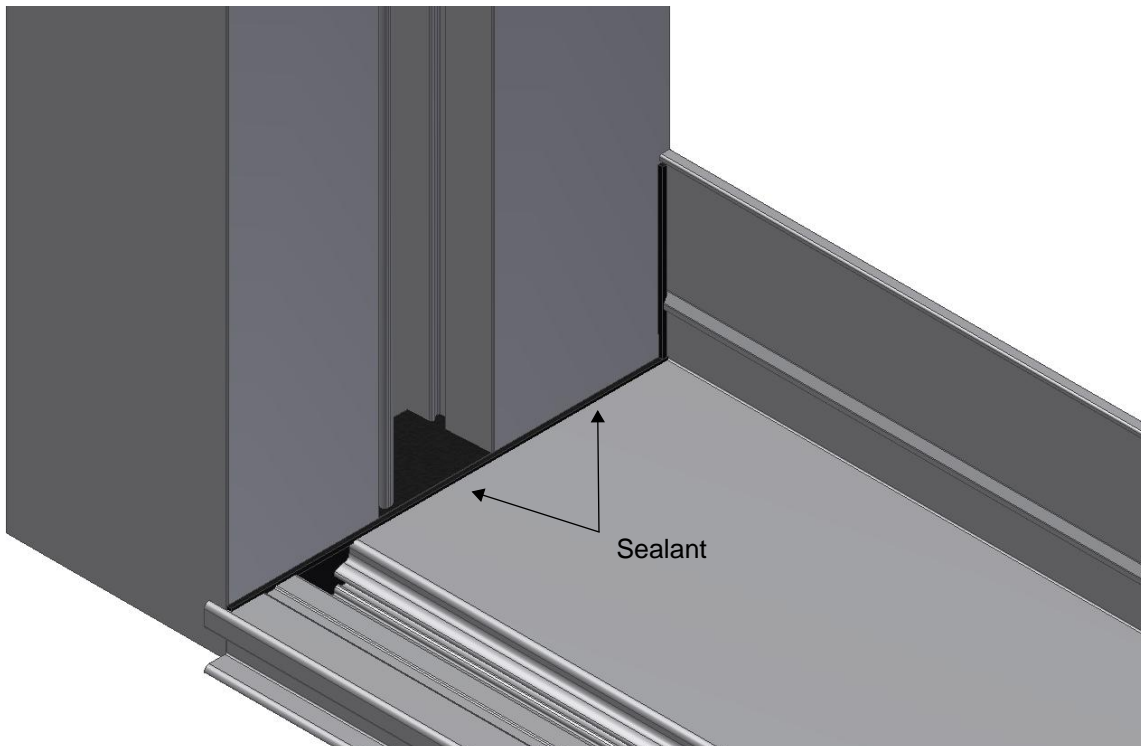

Figure 5: Butt the sill flashing up against the back of the door jamb.
- At jamb conditions, butt the sill flashing up against the back of the door jamb and seal the sill to the back of the entrance frame as shown in Figure 5. Place shims (not by Tubelite) under the flashing as needed to support the sill and level it.